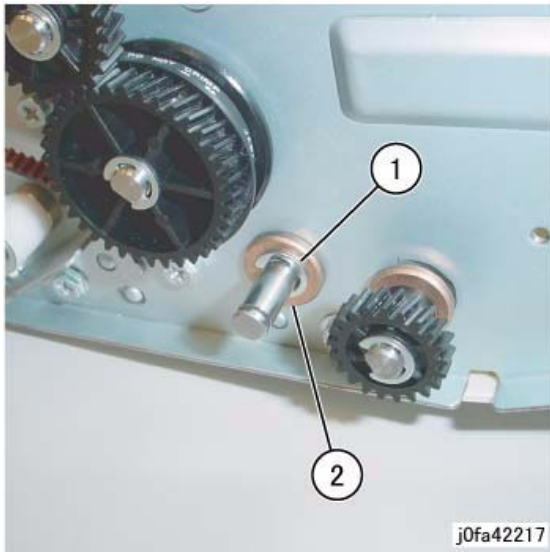

Figure 3 Removing the Bearing (j0fa42217)
6. Remove the rear Bearing. (Figure 3)